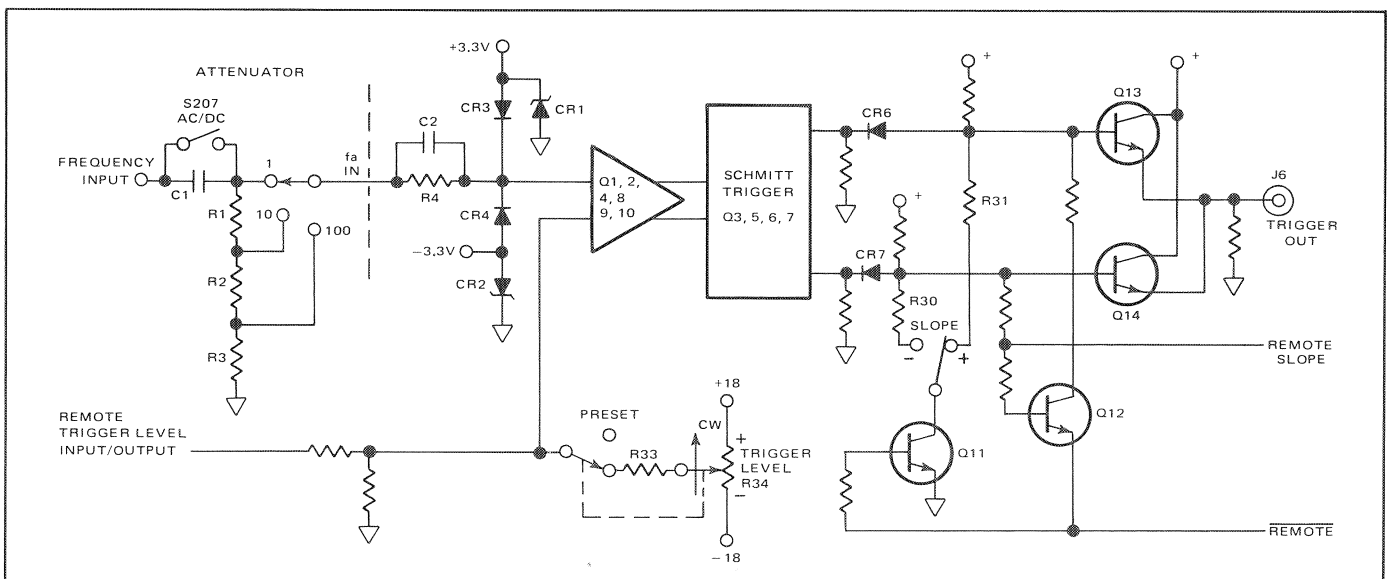

Figure 4.14 - Signal Conditioning Block Diagram
4.52 CHANNEL A ATTENUATOR (figure 4.14).
4.55 As shown in figure 4.14, the signal from the channel A attenuator (f_a in) flows through emitter follower circuits Q1 and Q2. Transistors Q4 and Q8 form a gain stage to drive the input side of a Schmitt trigger consisting of transistors Q3, Q5, Q6, and Q7. The signal from the attenuator is prevented from exceeding ± 4 volts by clamp zener diodes CR1, CR2 and diodes CR3 and CR4. The trigger level of the trigger circuit is determined by the potential applied to the input of the follower circuits consisting of Q9 and Q10. With PRESET selected (the extreme counter-clockwise position of the front panel trigger level